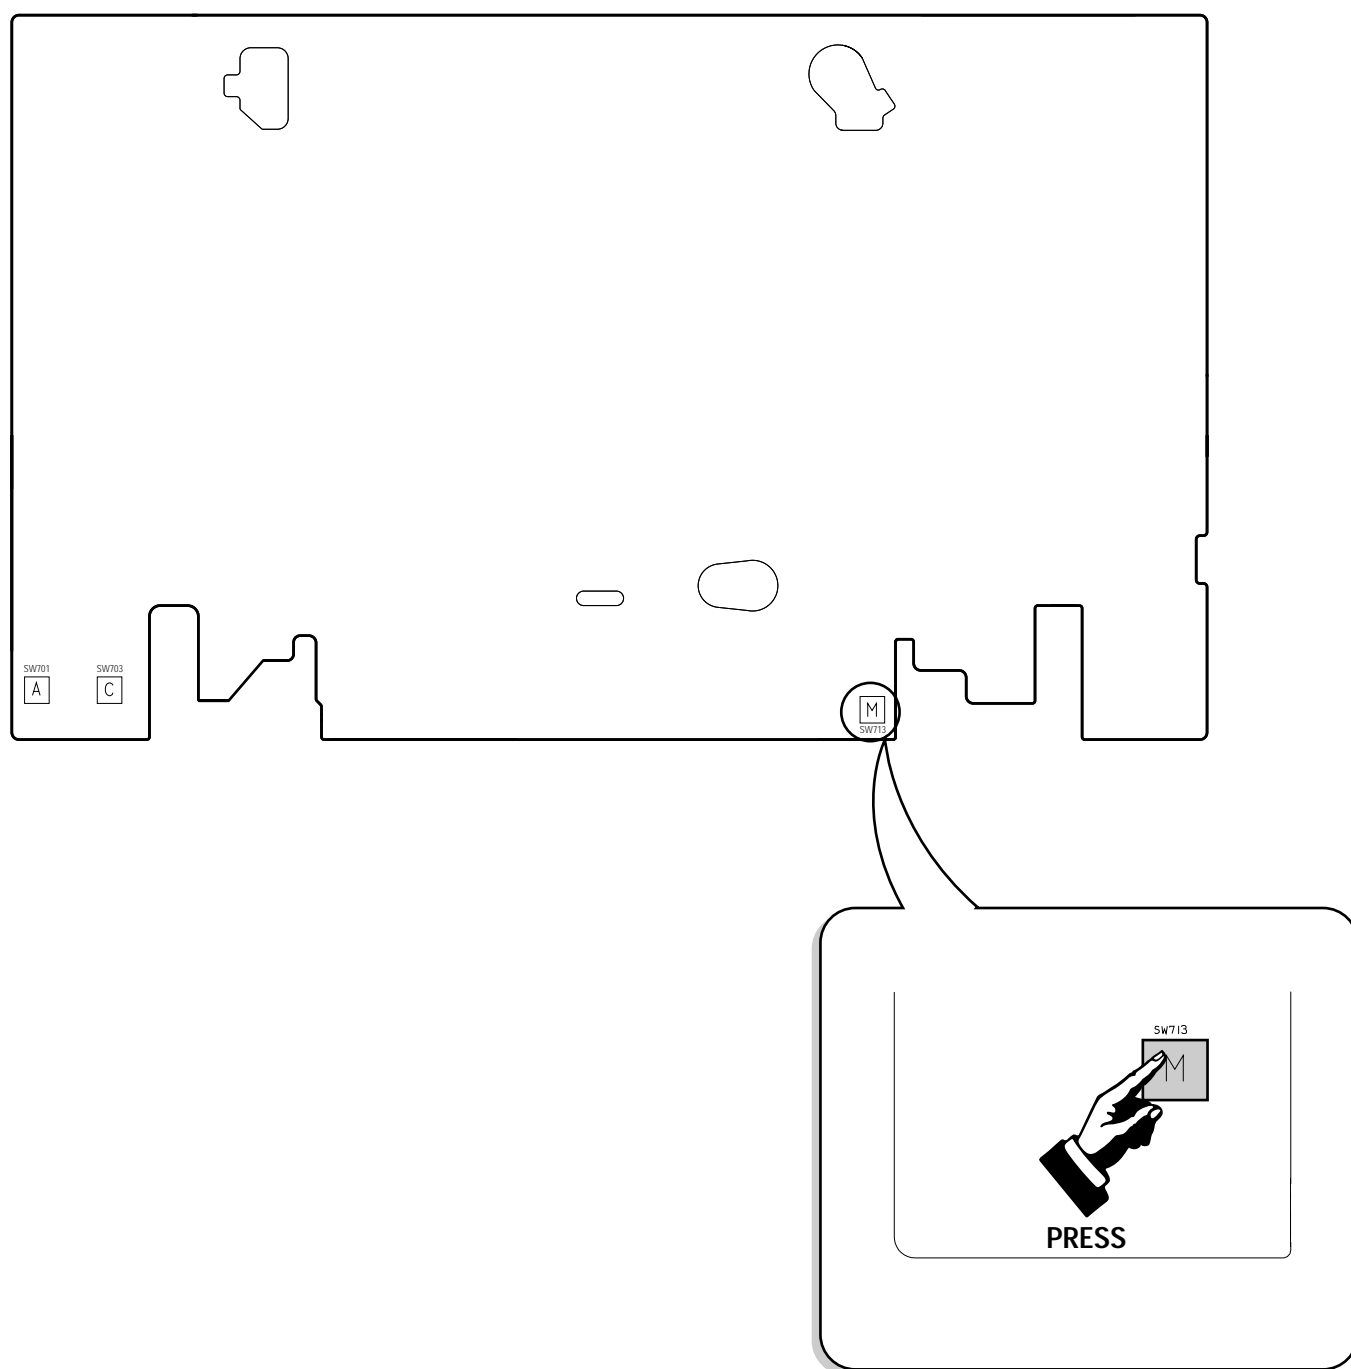

Fig. 5-2 Main PCB (Top View)
- 2) Press the "SW713" button on Main PCB to set the adjustment mode. (See Fig. 5-2)